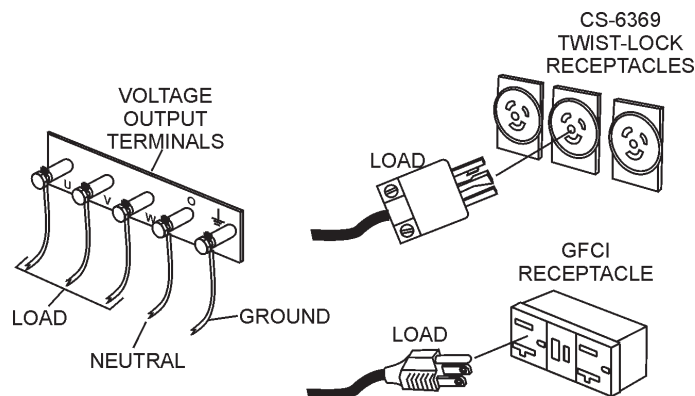

Figure 37. Load Connections
2. Connect the load to the **UVWO** terminals or **auxiliary receptacles** as shown in Figure 37. These load connection points can be found on the output terminal panel. To gain access to the UVWO terminals or other power receptacles, unlock the access cover and lift the door.